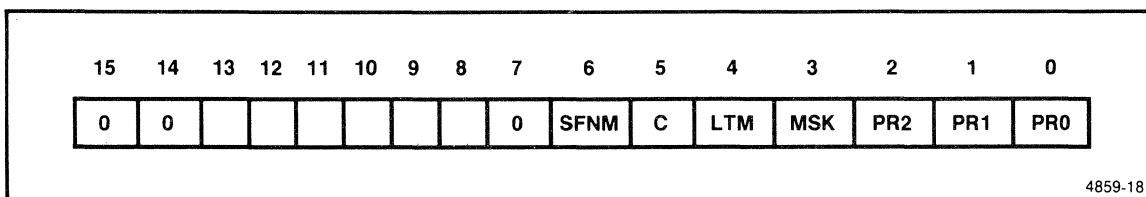
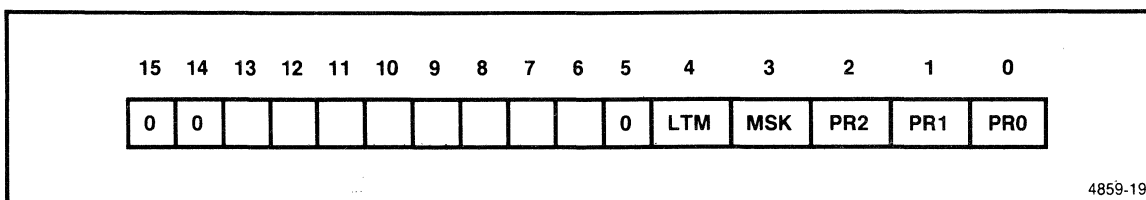

Figure 2-17. INT0 and INT1 Control register formats.
Figure 2-18. INT2 and INT3 Control register formats.
The bit format for the INT0 and INT1 Control registers is shown in Figure 2-17. The bit format for the INT2 and INT3 Control registers is shown in Figure 2-18. In cascade mode or special fully nested mode, the control registers INT2 and INT3 are not used. The bits in the various external interrupt (INT) control registers have the following functions:
- Bit 5** **C.** (For Figure 2-17 only.) The cascade mode bit in the interrupt control registers INT0 and INT1 specifies cascade mode or fully nested mode: 1 = cascade mode; 0 = fully nested mode (direct mode).
- Bit 6** **SFNM.** (For Figure 2-17 only.) The special fully nested mode bit in the interrupt control registers INT0 and INT1 specifies the mode of operation: 1 = SFNM (special fully nested mode).